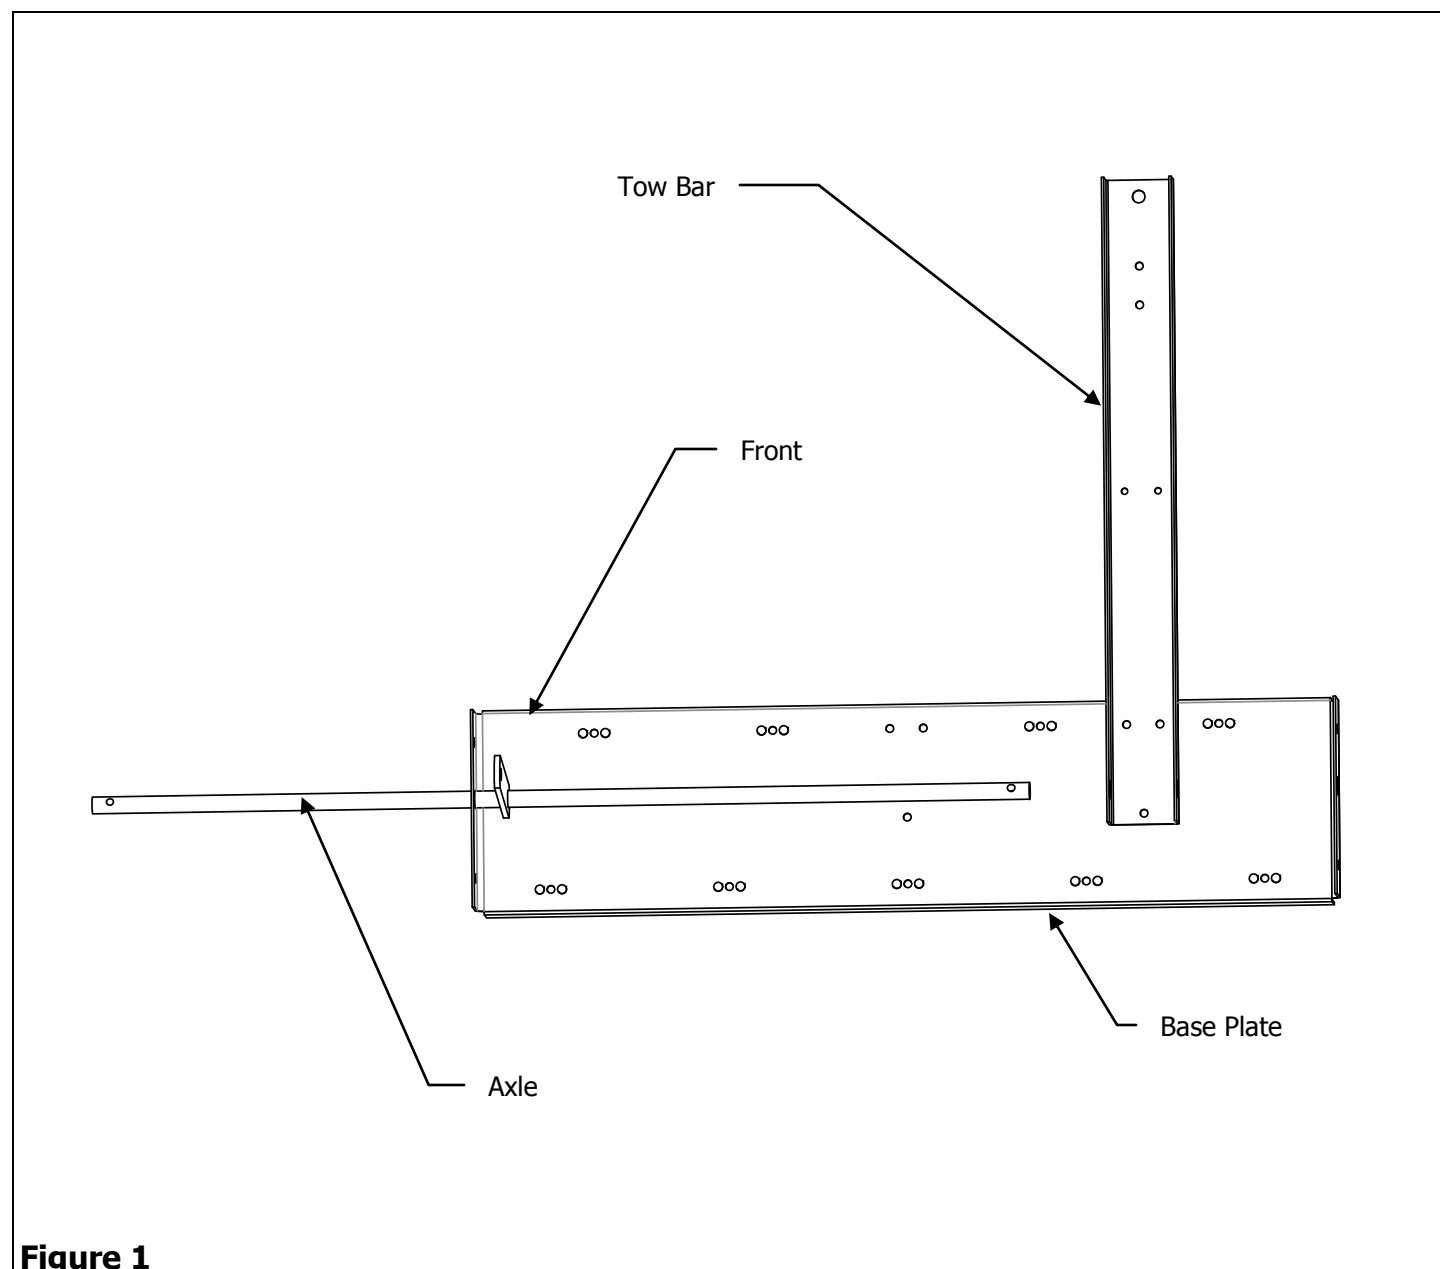

Figure 1
1. Place the Base Plate on a flat surface with the front facing away for you (the front will have three bolt holes in the center). Insert the short side of the Axle into the Axle Hole to your left. Slide the Tow Bar onto the Axle. Slide the Axle into the Axle Hole on the right side of the Base Plate. See Figure 1.